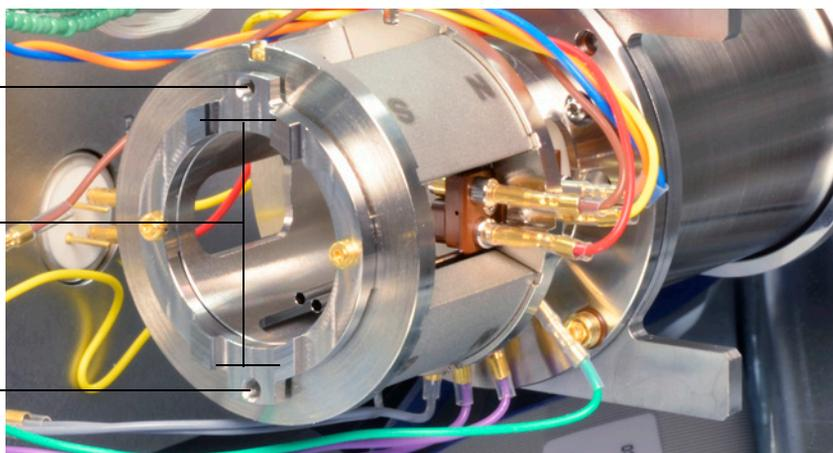

Figure 67. The EI HES radiator
- 3 Align the ion source so that the slotted opening for the lens stack, where the lens numbers are visible, is on the right side. Also, position it so the two attachment tabs of the source mount align with the corresponding slots in the source radiator. (See **Figure 67**). Slide the ion source into the source radiator until resistance is felt.
- 6 Install and hand-tighten the source thumbscrews. Do not overtighten the thumbscrews. (See **Figure 67** on page 208.)